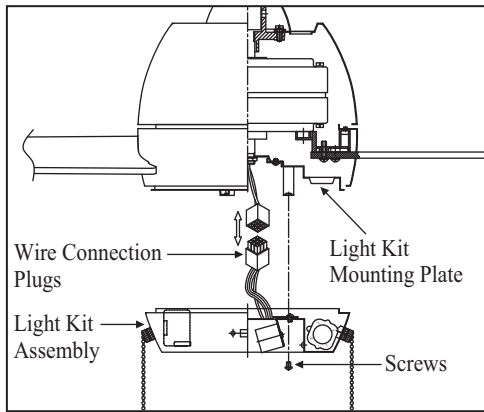

Figure 17
2. While holding the light kit assembly under your fan, snap the wire connection plugs together. (Fig. 17)
3. Carefully push all wires back into the light kit mounting plate. Place the key holes on the light kit assembly over the 2 screws previously loosened from the mounting plate, turn the light kit assembly until it locks in place at the narrow section of the key holes. Secure by tightening the 2 screws previously loosened and the one previously removed. (Fig. 17)